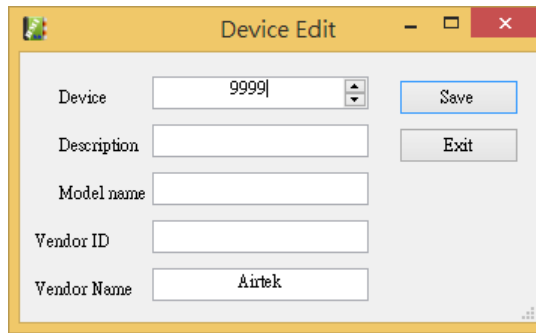

Figure 3-5 Add Device Window
- When you are working offline, you can take advantage of the "Add Device" option in the device management shortcut menu (the shortcut menu appears on the right mouse button on any device in the device list). Click the "Add Device" option in the shortcut menu to open the new device window, as shown in Figure 3-5.
10. In the shortcut menu, you can use this option to turn on the device editing window (see Figure 3-5) to modify the device-related information when you are working offline.